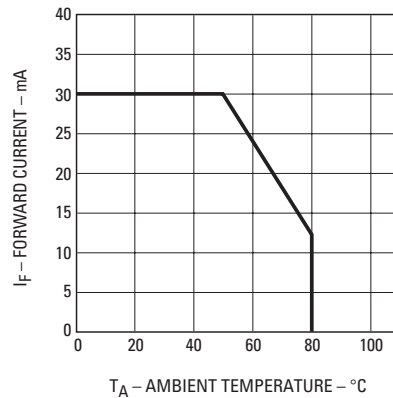

Figure 6. Blue, green maximum forward current vs. ambient temperature.
1. Derate linearity from Figures 6 & 7.